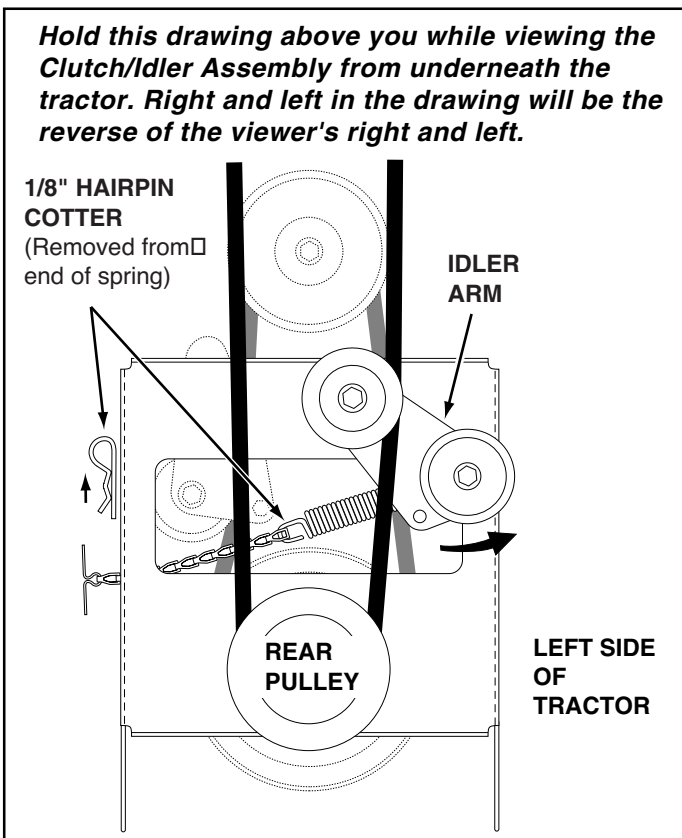

FIGURE 23 VIEWED FROM UNDERNEATH
- Remove the 1/8" hairpin cotter that secures the end of the idler arm spring to the right side of the clutch idler assembly. Swing the idler arm to the left side. See figure 23.
- Place the auger belt around the rear pulley and between the two pulleys on the idler arm. The "V" side of the belt must be seated in the grooves of the "V" pulleys. See figure 23.